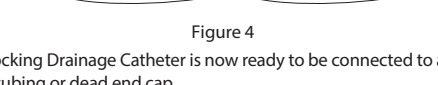

Figure 3
7. To engage the suture locking mechanism: Pull the suture until desired pigtail is formed. Rotate the suture locking mechanism distally to hold the suture in place. See Figure 3.